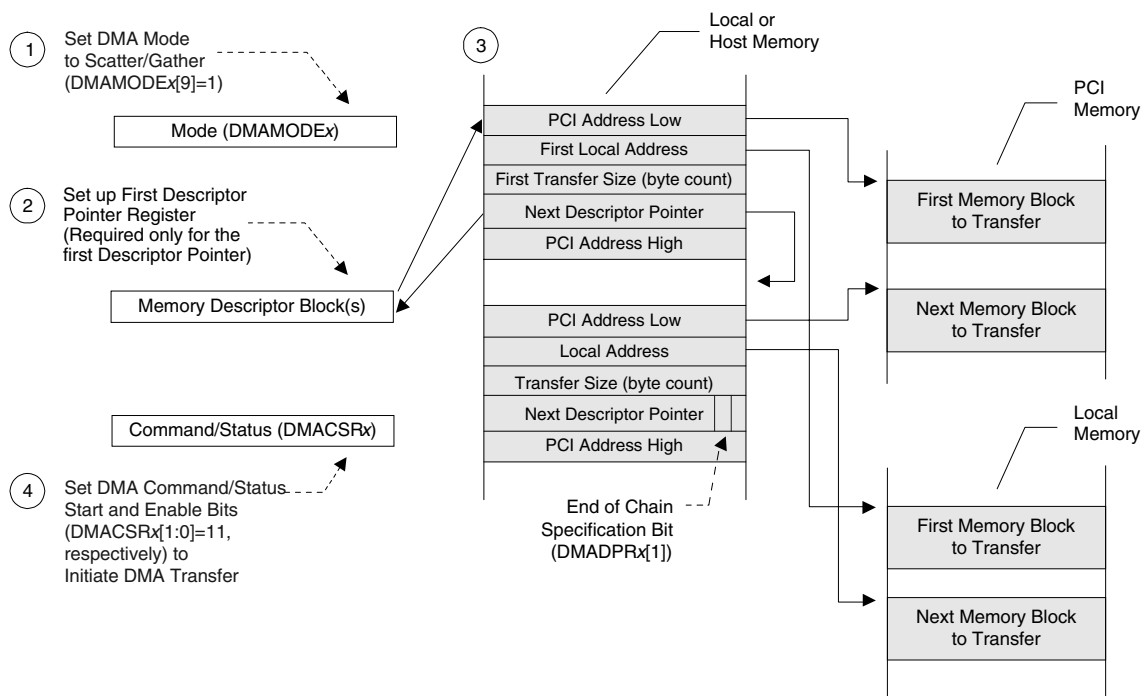

Figure 5-18. DMA Scatter/Gather Mode Descriptor Initialization [DAC PCI Address (DMAMODEx[18]) Descriptor Dependent (PCI Address High Added)]
- DMADACx contain(s) a value of 0h. DMAMODEx[18] is set to 1. The PCI 9656 performs a SAC 5-Lword descriptor block load from PCI memory and DMA transfer with PCI DAC on the PCI Bus. (Refer to Figure 5-18.) The DMA descriptor block starting addresses should be 32-byte-aligned.
- DMADACx contain(s) a non-zero value. DMAMODEx[18] is set to 1. The PCI 9656 performs a SAC 5-Lword descriptor block load from PCI memory and DMA transfer with DAC on the PCI Bus. The fifth descriptor overwrites the value of the DMADACx register(s). (Refer to Figure 5-18.) The DMA descriptor block starting addresses should be 32-byte-aligned.